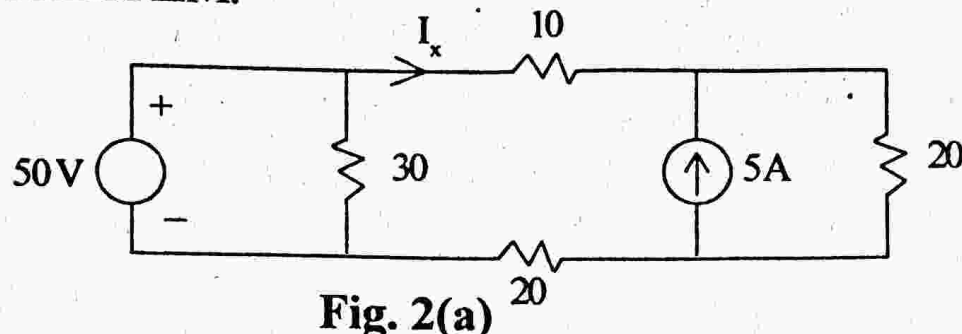

Fig. 2(a)
2. (a) Determine the current ' I_x ' through $10\ \Omega$ resistor as shown in 'Fig. 2(a)' using SUPERPOSITION THEOREM.